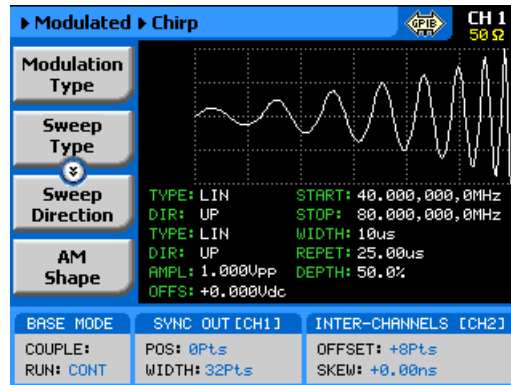

Figure 3-41, Chirp Menus
The AM function enables amplitude modulation of a carrier waveform (CW). The carrier waveform is modulated by an internal waveform, normally referred to as envelope waveform. The envelope waveform can be selected from sine, triangle square or ramp shapes. When AM is selected, the menus that are associated with AM become accessible. These are shown in Figure 3-41.